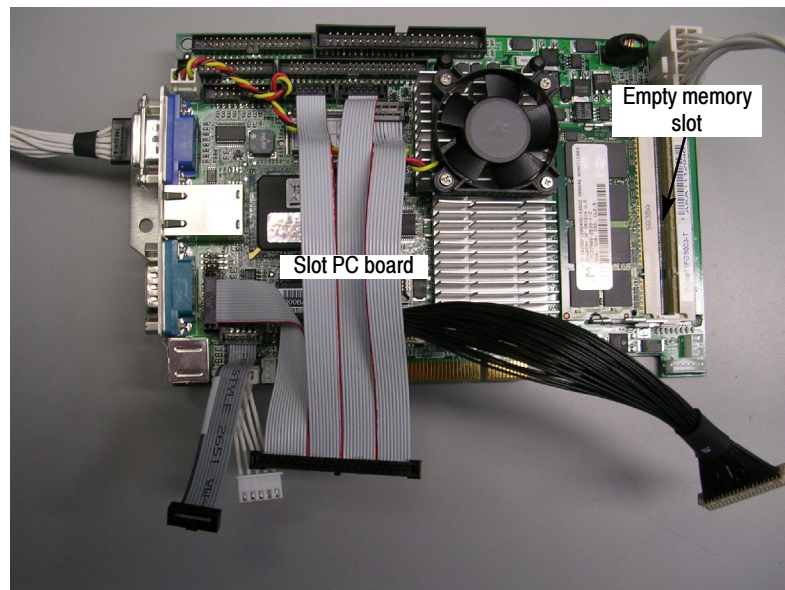

Figure 7: Slot PC board with empty memory slot
9. Remove the Slot PC board from the instrument. See Figure 7.